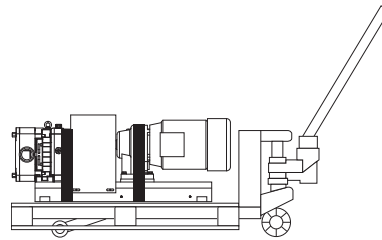

Fig. 9 Moving with industrial truck
- ▶ Ensure that the pump is adequately secured to the pallet, for example, with straps; see *fig. 9, "Moving with industrial truck," page 9.*